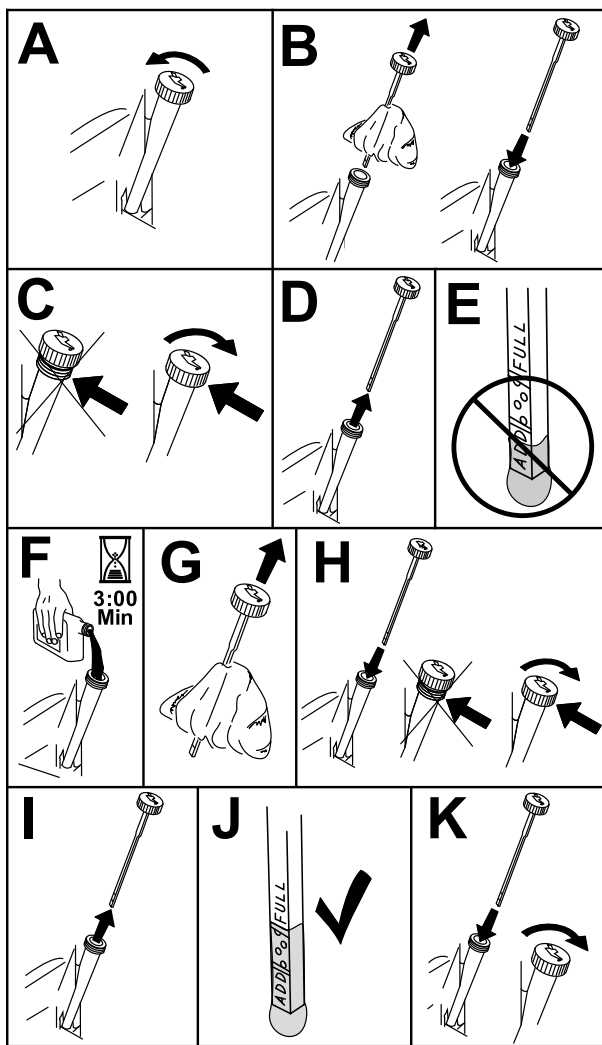

Figure 35
- 3. To keep dirt, grass clippings, etc., out of the engine, clean the area around the oil-fill cap and dipstick before removing it (Figure 35).